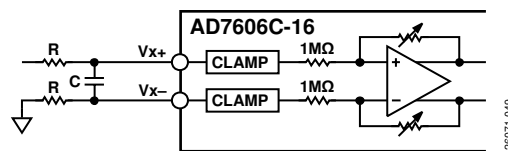

Figure 76. Input Resistance Matching on the Analog Input of the AD7606C-16 for Single-Ended Ranges (Vx- Tied to Ground)
It is recommended to place a series resistor on the analog input channels to limit the current to ± 10 mA for input voltages greater than ± 21 V. In an application where there is a series resistance (R) on an analog input channel, Vx+, it is recommended to match the resistance (R) with the resistance on Vx- to eliminate any offset introduced into the system, as shown in Figure 76. However, in software mode, there is a per channel system offset calibration that removes the offset of the full system (see the System Offset Calibration section).